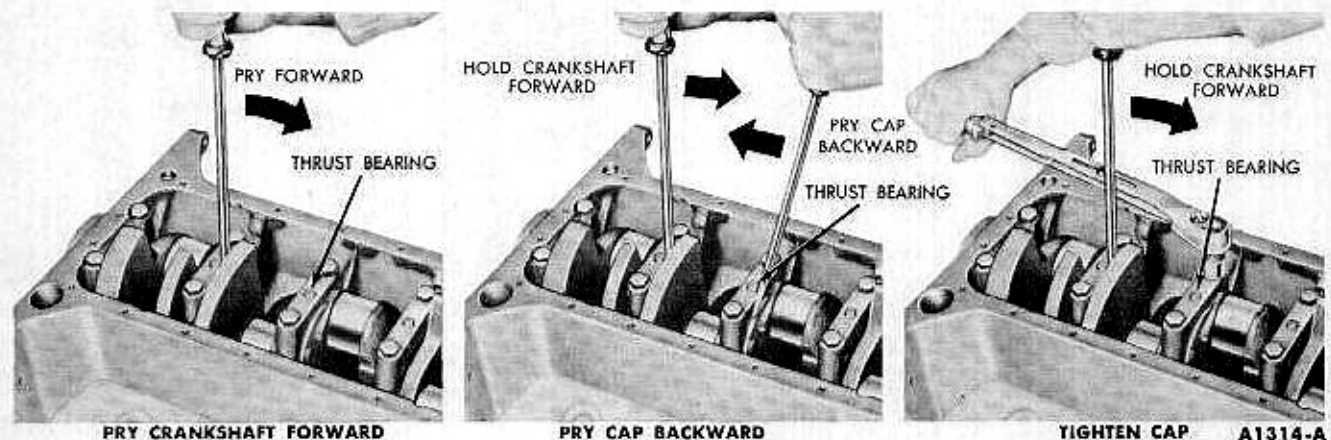

FIG. 35—Thrust Bearing Alignment
8. Pry the crankshaft forward against the thrust surface of the upper half of the bearing (Fig. 35).
9. Hold the crankshaft forward and pry the thrust bearing cap to the rear (Fig. 35). This will align the thrust surfaces of both halves of the bearing.
10. Retain the forward pressure on the crankshaft, and tighten the cap bolts to specifications (Fig. 35).